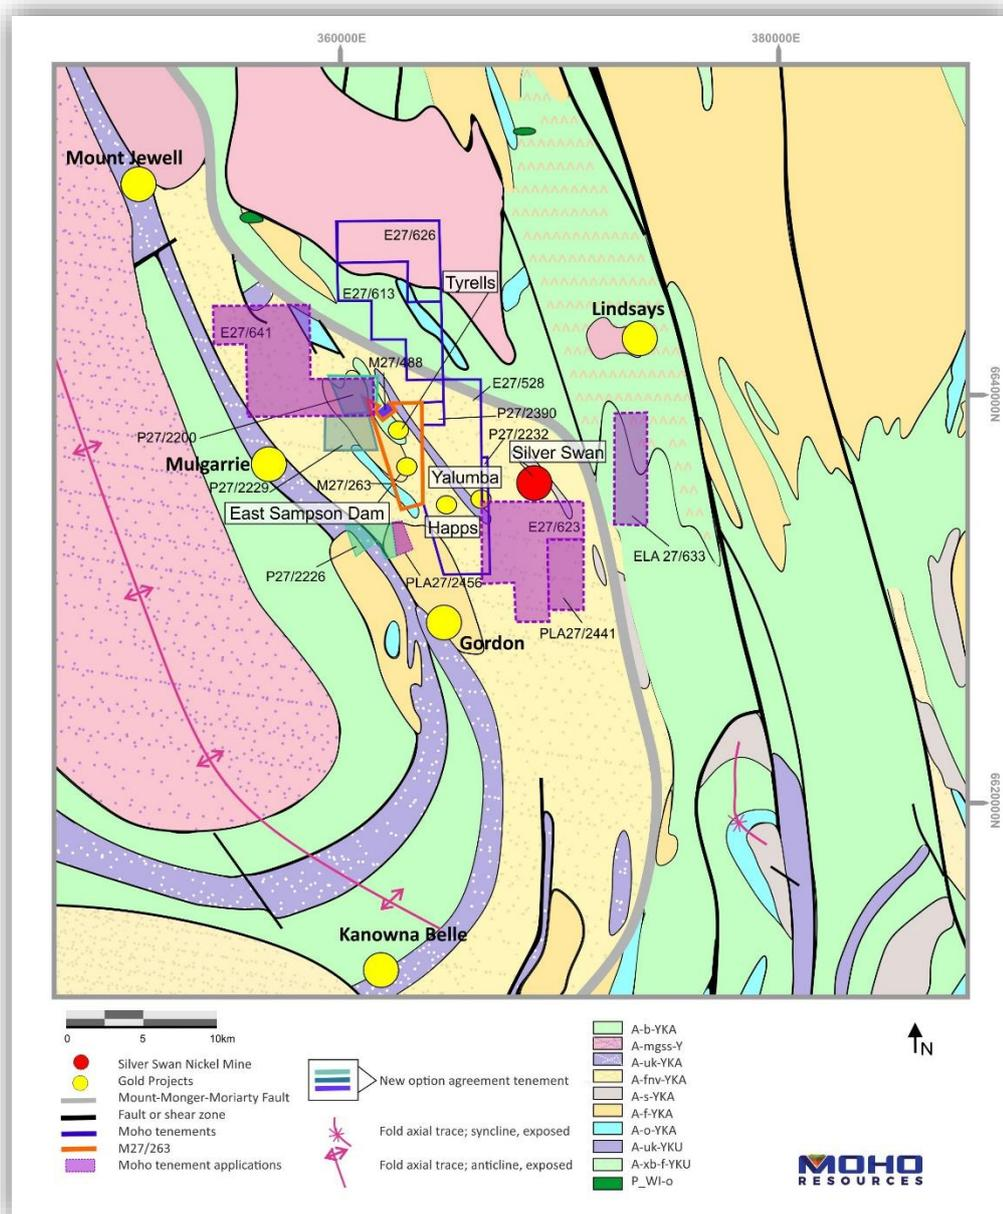

Figure 1: Moho’s Silver Swan North Project tenements, including M27/263 (highlighted) in relation to regional geology
Moho Resources Ltd (ASX:MOH) (**Moho** or **Company**) is pleased to announce encouraging results for the first 9 holes of the Phase 2 reverse circulation (RC) drilling program as part of its resource definition studies, to infill and extend gold mineralisation, at the East Sampson Dam (ESD) prospect, M27/263 (Figure 1).